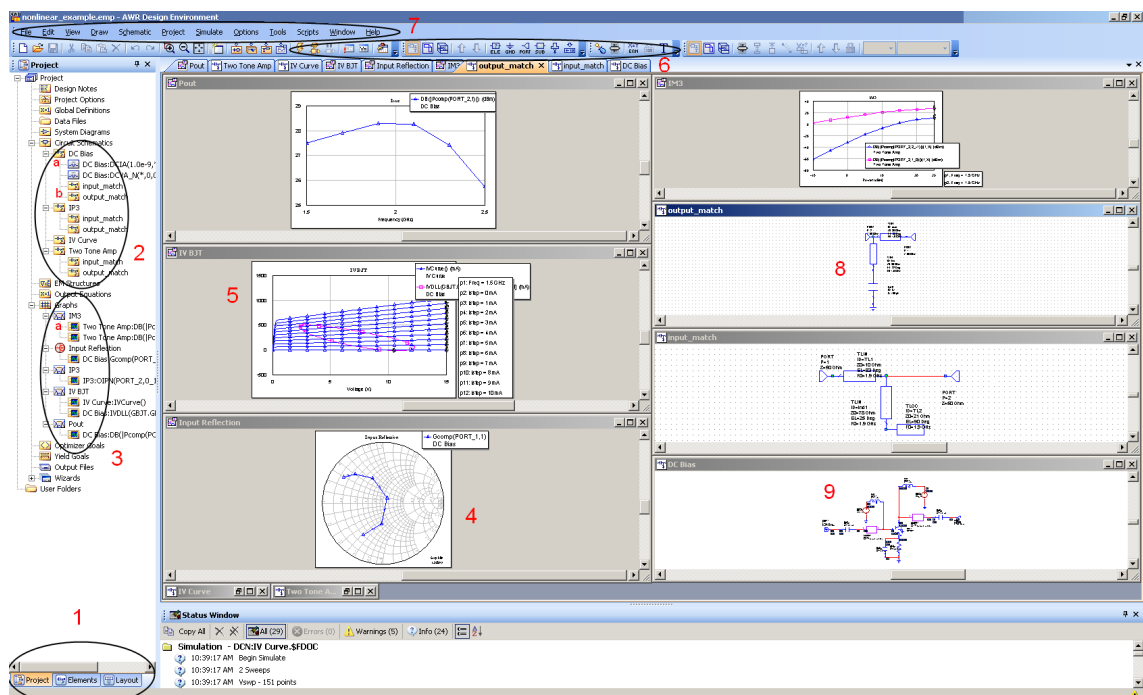

Figure 2.1: Microwave Office Environment
The Microwave Office environment is divided into three main areas. The ‘browser’, the ‘window’ and the ‘menus and toolbars’. A typical screen shot is shown in figure 2.1. Some areas of interest have been numbered.
- The ‘browser’, on the left of the screen is further divided by three tabs (number 1 in figure 2.1). These are ‘Project’, ‘Elements’ and ‘Layout’. The ‘Project Browser’ is presently displayed. The ‘Elements Browser’ is shown in figure 2.2.
The toolbars allow quick access to commonly used functions. The toolbars are shown in number six of figure 2.1. An enlarged, numbered, version is shown in figure 2.3. With reference to figure 2.3: